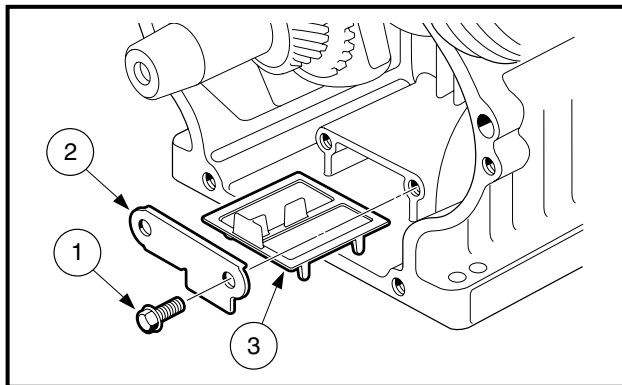

Figure 13-89 Oil Screen Removal
1. Remove the two bolts (1) to take out the oil screen plate (2) and the oil screen (3) (**Figure 13-89, Page 13-41**).